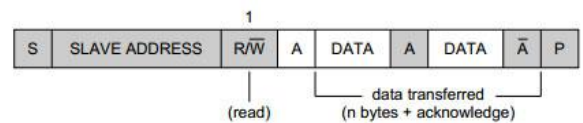

Figure 6: A master reads a slave immediately after the first byte
- Master reads slave immediately after first byte (see Figure 6). At the moment of the first acknowledge, the master-transmitter becomes a master-receiver and the slave-receiver becomes a slave-transmitter. This first acknowledge is still generated by the slave. The master generates subsequent acknowledges. The STOP condition is generated by the master, which sends a not-acknowledge (A) just before the STOP condition.